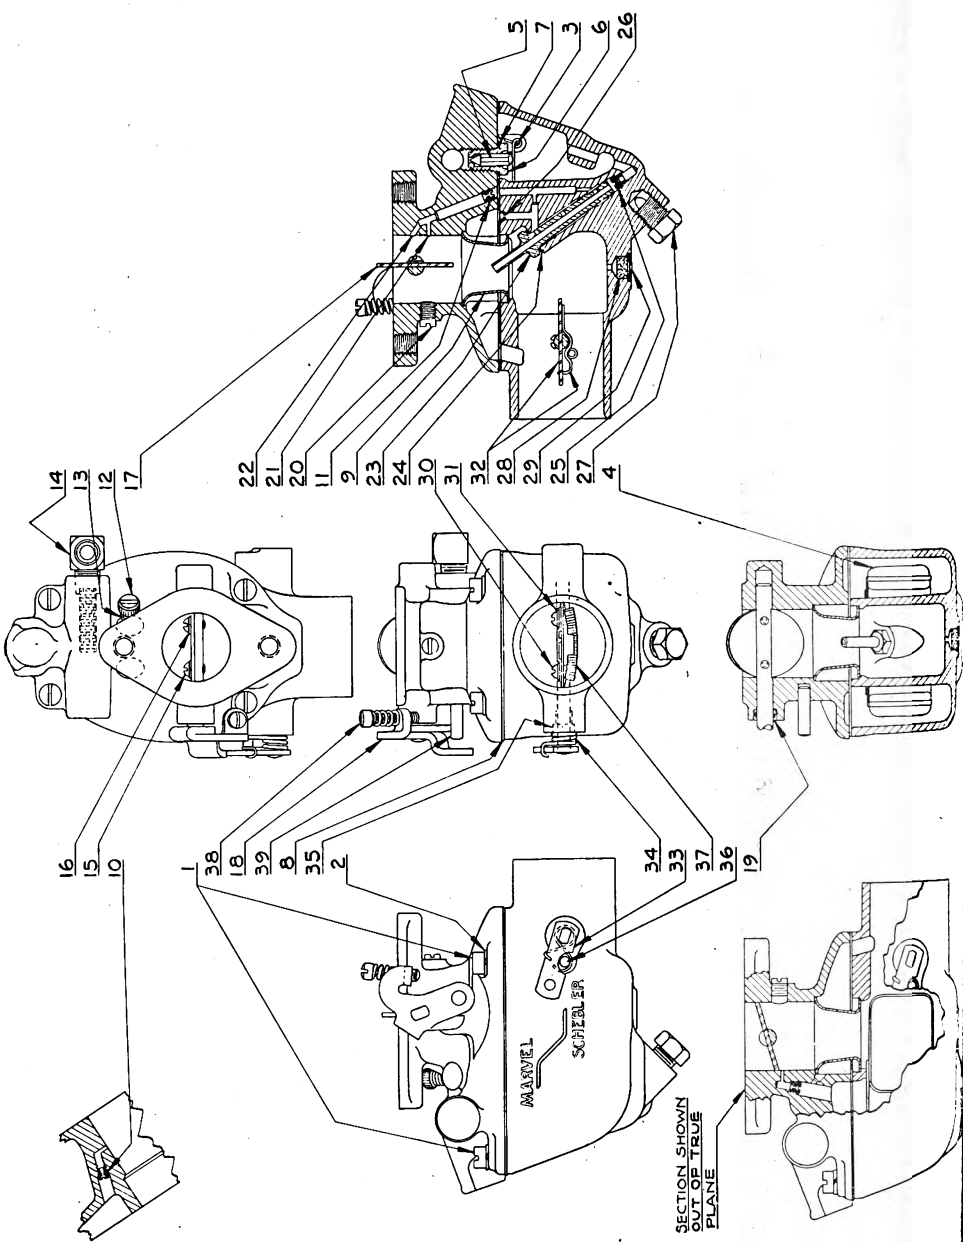

Figure 14. Carburetor assembly.
#### 49. DISASSEMBLING CARBURETOR (fig. 14).
**e. Assembly of Main Body and Bowl to Throttle Body and Bowl Cover.** (1) With throttle body and bowl cover in the inverted position, lower main body and bowl over floats. Be careful that venturi [9] guides the bowl into position. With the two main castings held firmly together, turn carburetor to upright position and install carburetor to throttle body screws [4] and lockwashers [43].
(2) Assemble gas inlet elbow and screen assembly [14] with open end of connection facing upward as shown in figure 14.
(3) Install carburetor on tractor, using new flange gasket, and make final idle adjusting needle adjustment as directed under adjustment instructions.